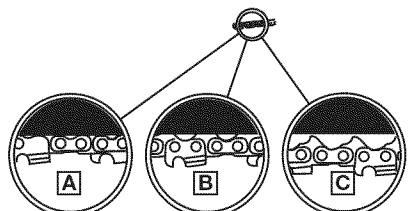

Fig. 11
**CAUTION:** If a chain is too loose or too tight, the bar chain and saw bearings will wear more rapidly. Refer to Figure 11 for information concerning correct cold tension (A), correct warm tension (B), and a chain in need of adjustment (C).
**NOTE:** A new chain and bar will need re-adjustment after as few as 5 cuts. This is normal during the break-in period, and the interval between future adjustments will lengthen quickly (Fig. 11).